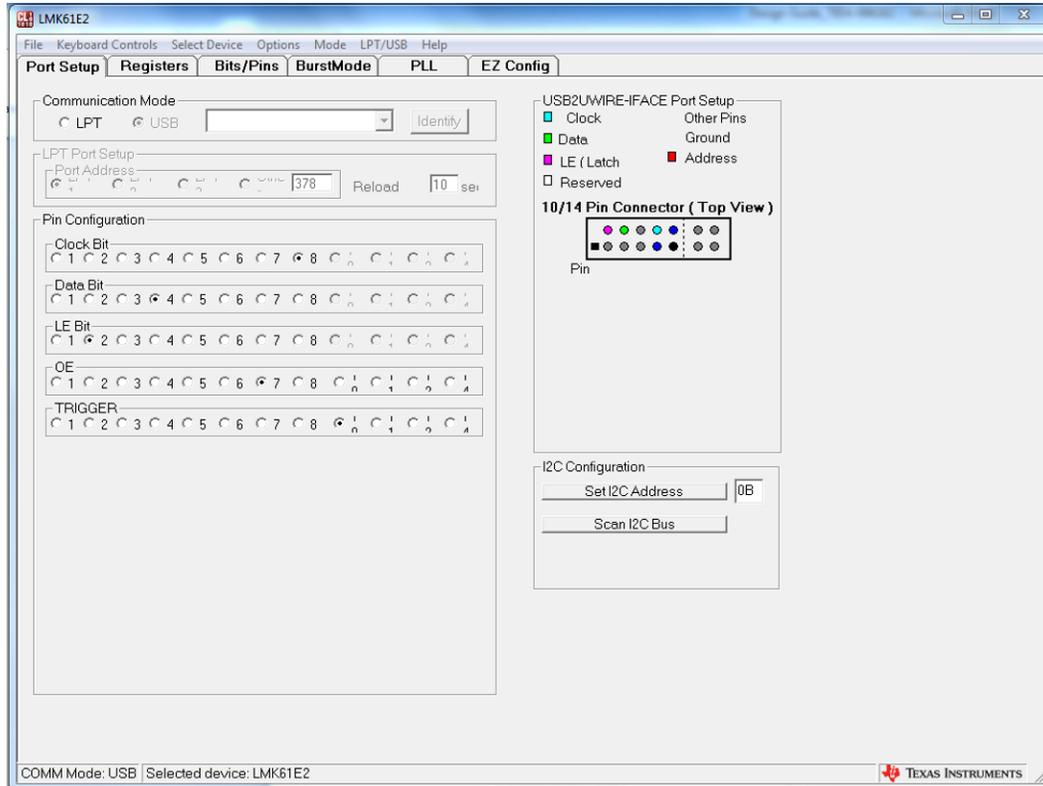

Figure 6. CodeLoader 4 GUI Screenshot
2. To start the software, open the Codeloader4.exe from the installed directory. Open the software as shown in Figure 6.